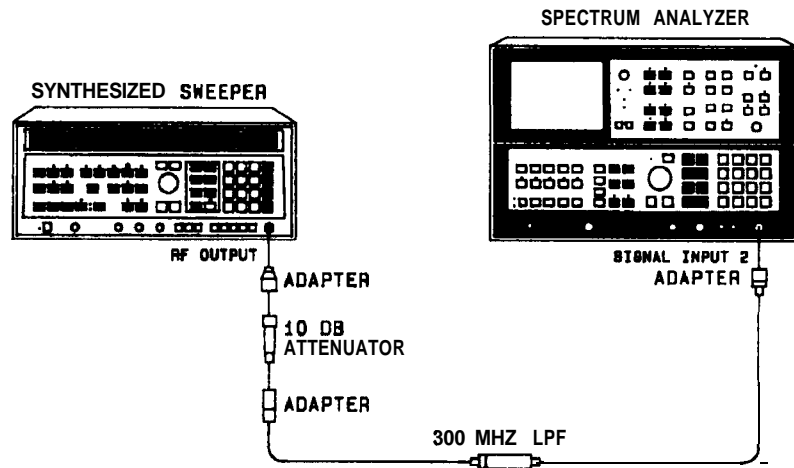
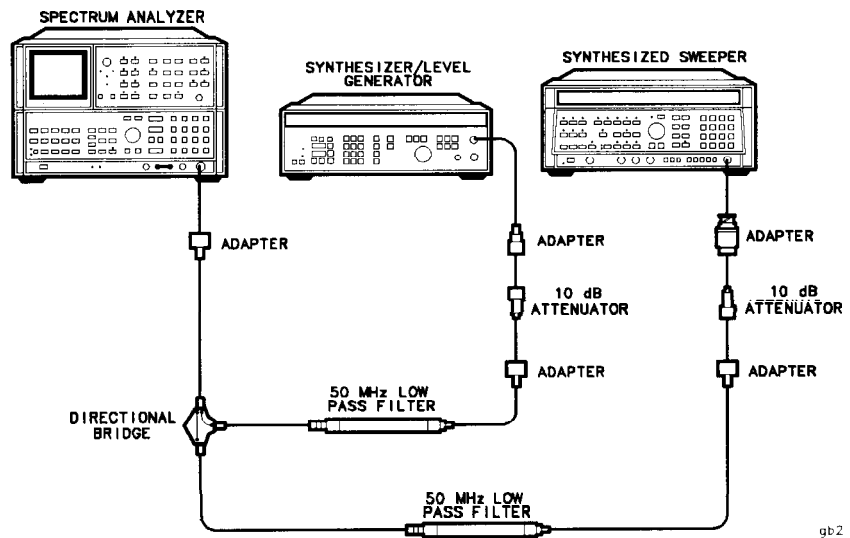

Figure 2-25. Harmonic Distortion Test Setup
Figure 2-26. Intermodulation Distortion **Test** Setup
Equipment listed is for two test setups, Figure 2-25 and Figure 2-26.
1. Connect equipment as shown in Figure 2-25.
11. Connect equipment as shown in Figure 2-26.